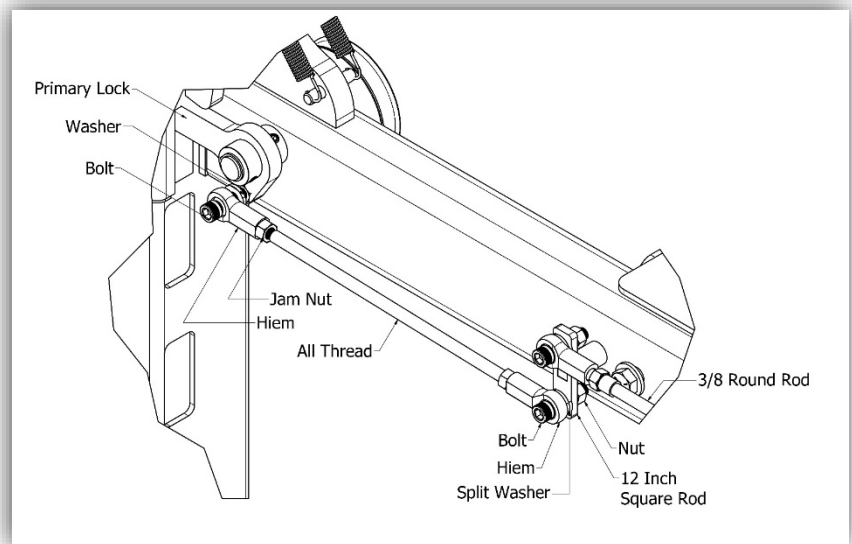

Figure 5.3
Select the (2) 3/8 x 3.875 or 11.875 pieces of all thread. Install a 3/8-24 nut and then a 3/8 hiem joint on to each end (*figure 5.3*).
Rotate the lock/handle assembly so that the safety rod end plate side points to 12 o'clock (*Figure 5.3*)